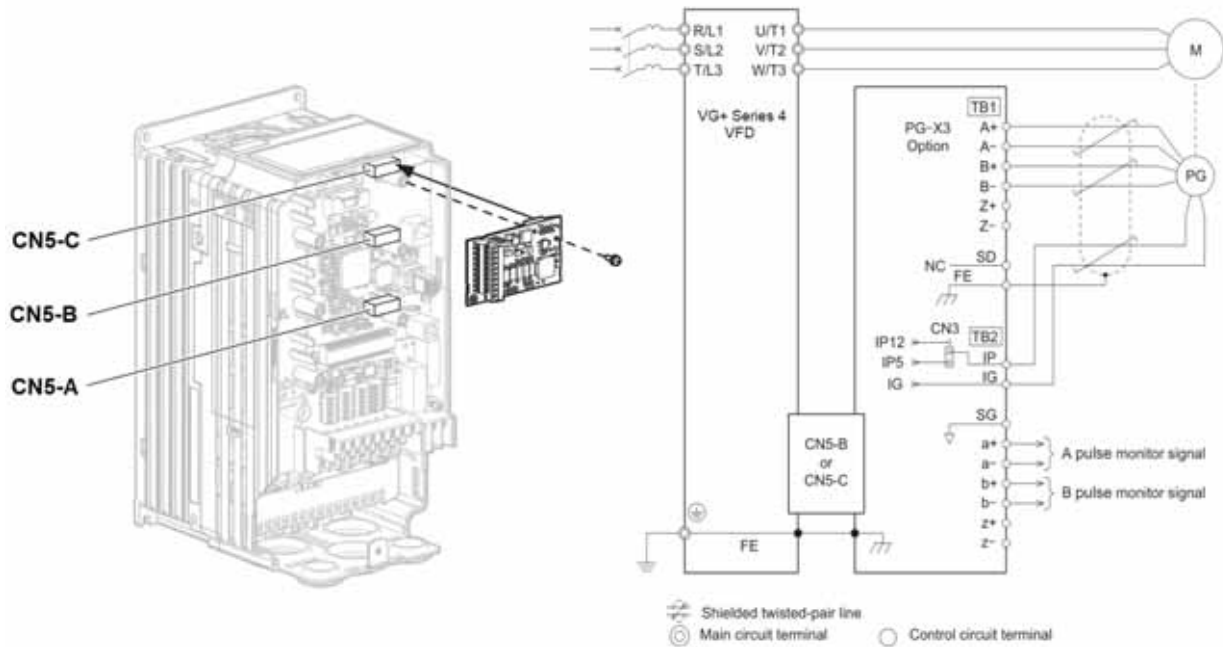

Figure 3-17: PG-X3 Encoder Card Wiring
2. Connect the encoder to the PG-X3 Encoder Option Card. **See Figure 3-17 on page 49.**